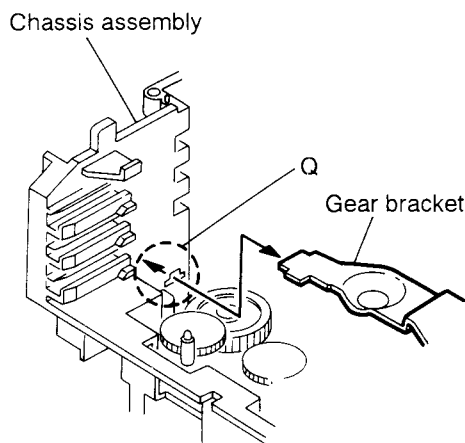

Fig. 5-34
3. From the notch (Q section) on the chassis assembly fixing the edge of gear bracket, remove and take out the gear bracket (See Fig. 5-34).